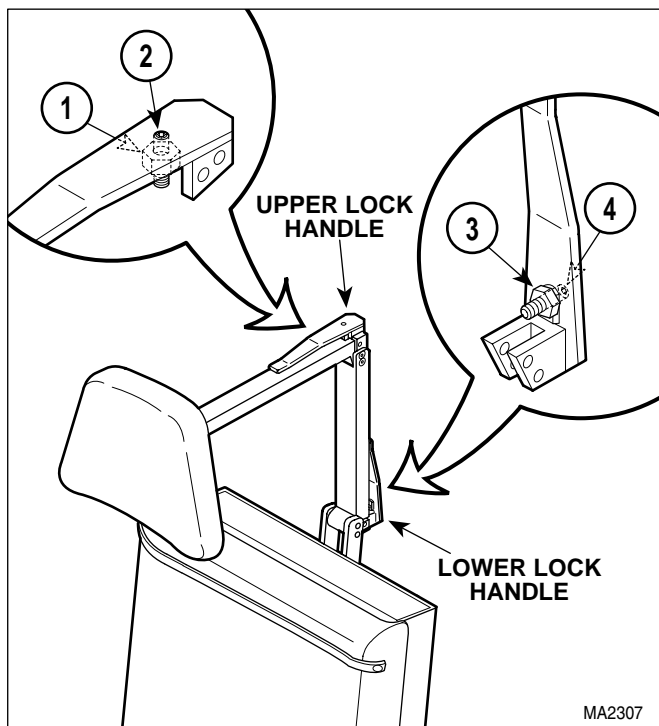

Figure 4-32. Headrest Handles Handle Stops Adjustment
- (1) Loosen nut (1, Figure 4-32).
- (2) Push on upper lock handle until it reaches a point where the upper lock handle wants to lock itself by going over center; then allow upper lock handle to go over center a few degrees. Hold the upper lock handle in this position and adjust stop screw (2) so the upper lock handle will be forced to stop in this position each time it is locked.
- (3) Tighten nut (1).
- (4) Loosen nut (3).
- (5) Push on lower lock handle until it reaches a point where the lower lock handle wants to lock itself by going over center; then allow lower lock handle to go over center a few degrees. Hold the lower lock handle in this position and adjust stop screw (4) so the lower lock handle will be forced to stop in this position each time it is locked.